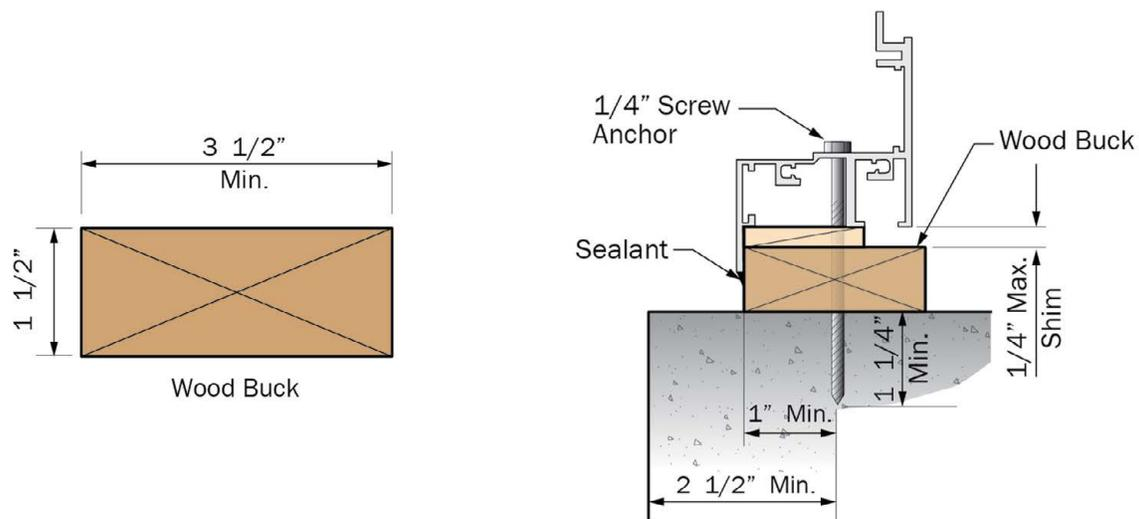

Figure 3.2.6. Use screw anchors to fasten window frames directly to concrete.
- Install screw anchors through the window jamb into block walls (Figure 3.2.6). The screw anchors must be long enough to penetrate the window jamb, shim space, and buck strip in addition to penetrating the masonry wall by about 1 ½ inches similar to methods included in Florida Division of Emergency Management, Bureau of Mitigation's *Hurricane Retrofit Guide Openings (Windows and Doors)*. The depth and size of fastener as well as spacing of required fasteners depends on the size of the opening and the design wind requirements at the building site. The design engineer should determine these requirements.